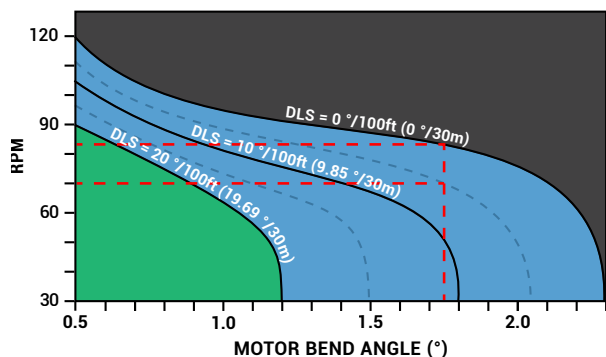

Figure 1: Illustration of Example 1
1. **Basic Chart Use** - A 5°/100 ft curve has been drilled with a 1.75° Motor Bend. You would then, reasonably be able to rotate at 70 RPM within at that curvature. Once you've drilled away from the base of the curve, and the bend is now in a straight and enlarged hole, the effective DLS is now 0°/100 ft and the new allowable RPM is around 84 (Refer to red dashed lines in Figure 1).